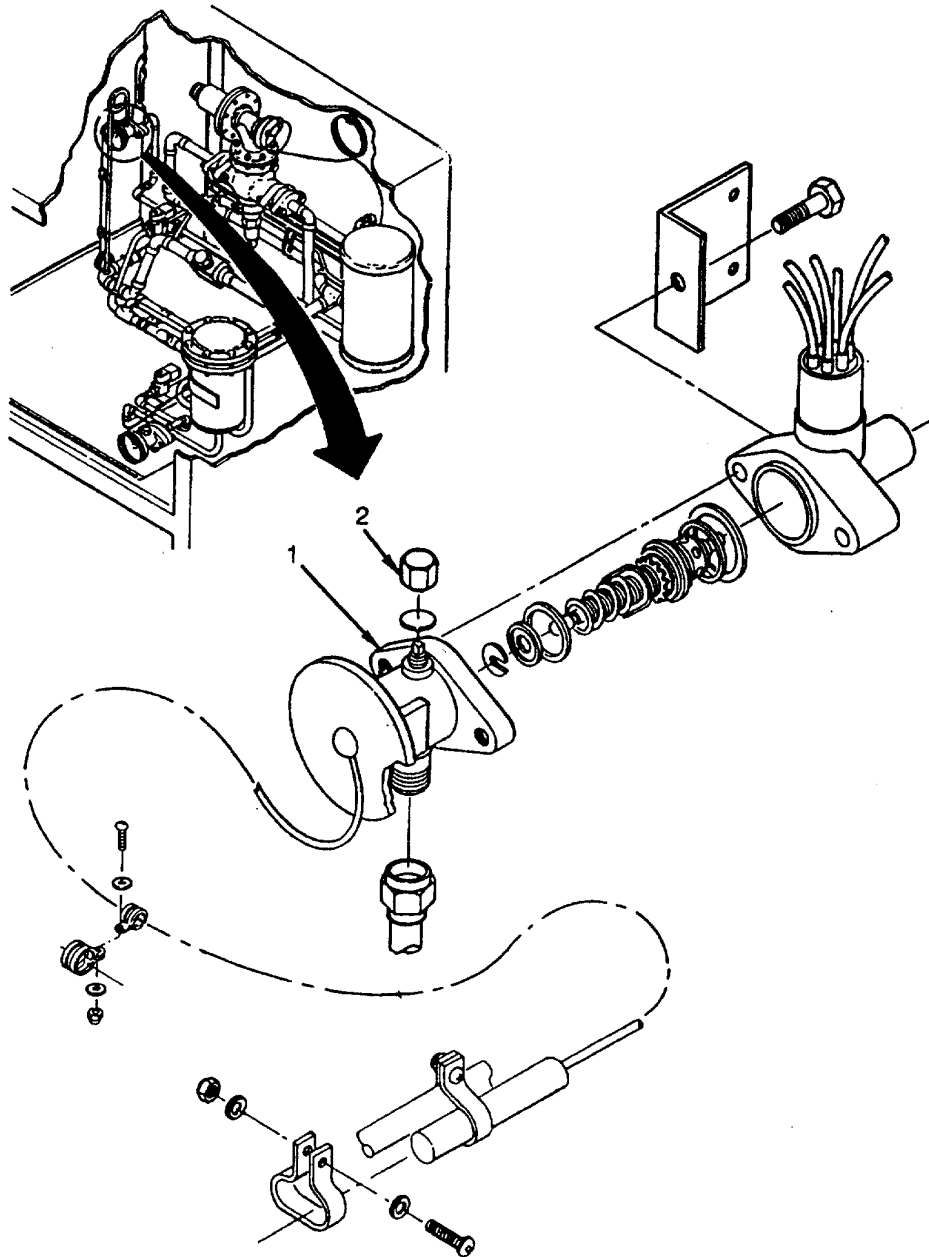

Figure 5-27. Thermostatic Expansion Valve (Primary)
1. Inspect for evidence of leaks, kinked or damaged capillary line, and loose or missing mounting hardware (see Figure 5-27).